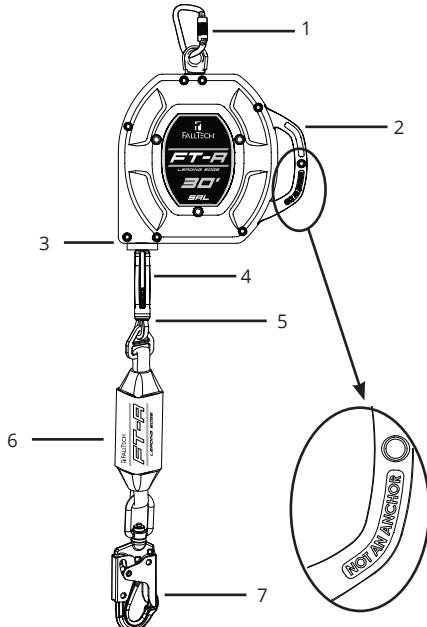

Figure 1 - About FallTech® FT-R Leading Edge SRL
As shown in Figure 1 below, the SRL has a glass reinforced nylon housing with an integrated handle that contains a lifeline composed of 7/32" (5.6mm) diameter galvanized steel wire rope, wound onto a spring tensioned drum. The SRL's lifeline is equipped with a cable stop/handle assembly with a bumper, integrated tearaway Energy Absorber (EA), and a steel swivel snap hook. When the user is attached, the lifeline extends and retracts with user movement, automatically maintaining a taut lifeline. If a fall occurs, a centrifugal pawl system engages, stopping the lifeline payout. The tearaway EA deploys, gradually slowing and arresting the fall.